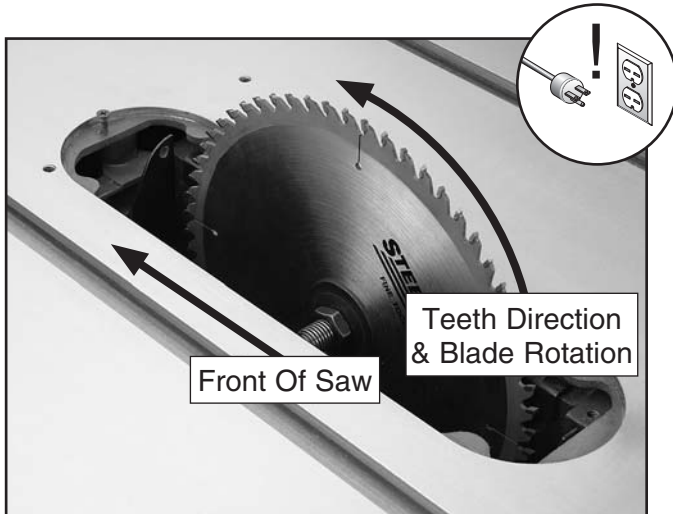

Figure 10. Correct blade direction.
2. Slide the blade over the arbor with the teeth facing the front of the saw as shown in **Figure 10**.